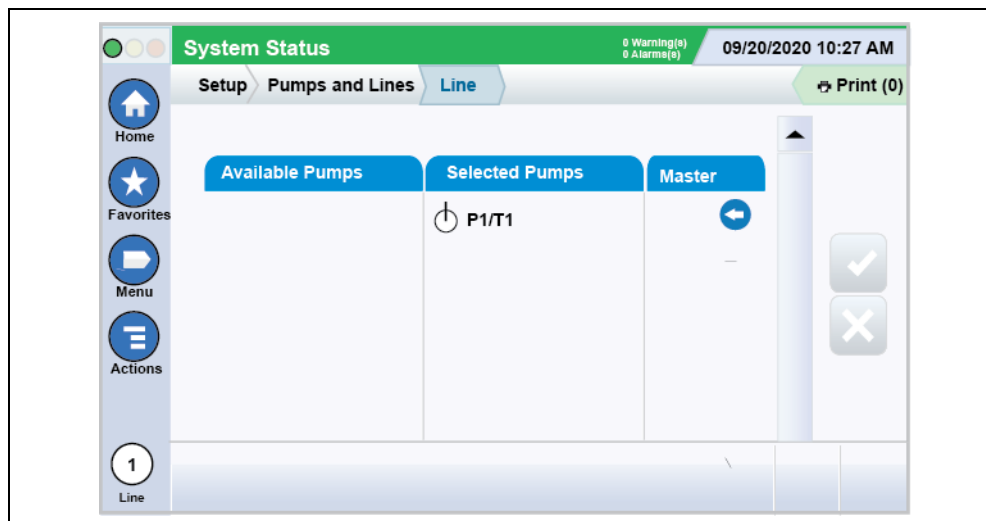

Figure 35. Line Setup Screen - Last Page
9. In this page of Line setup screens (see Figure 35), all configured Pumps will display in the left hand column for all pumps that were configured for each product. Identify the Pump that was configure in the previous Pumps menu for the Diesel Product and touch the Right Hand arrow next to the Diesel Pump to move the Diesel Pump to the right hand Selected Pumps column.